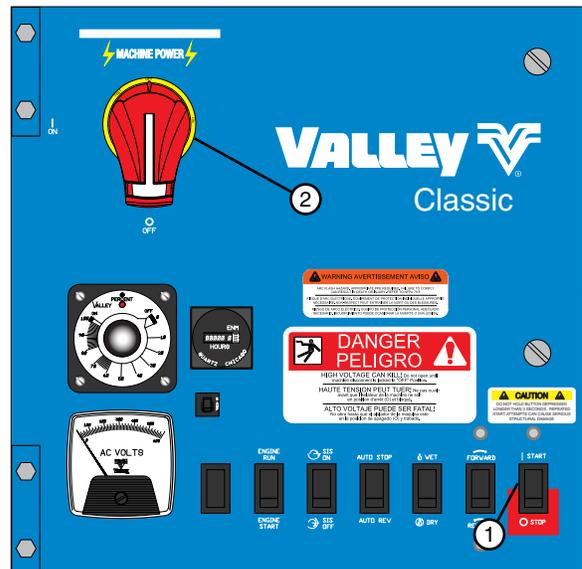

Figure 29-2 1. Start/Stop Switch
1. Place the START/STOP switch in the STOP position. See Figure 29-2.
2. Turn the main disconnect switch to the OFF position. See Figure 29-2.